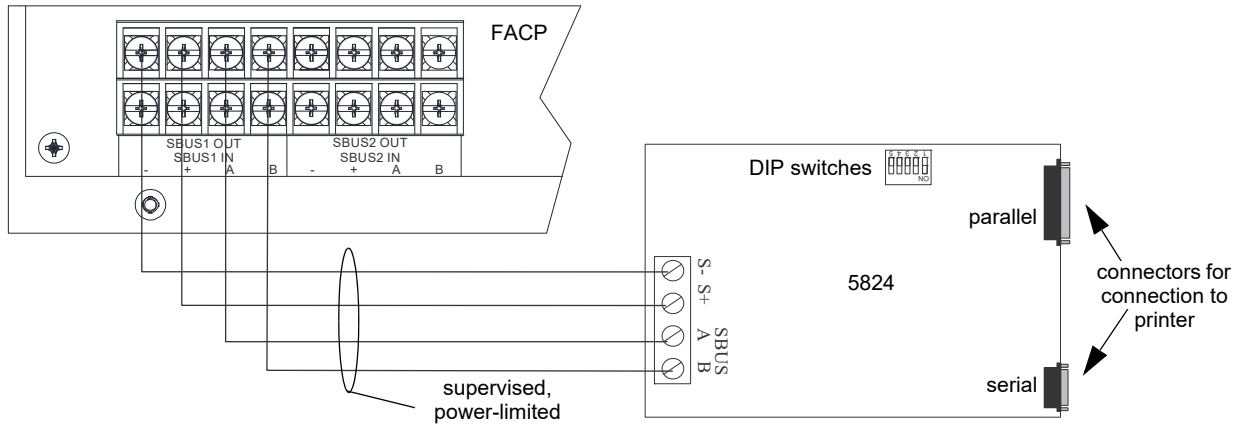

Figure 4.32 5824 Connection to the Panel
2. Connect the 5824 to the FACP as shown in Figure 4.32.